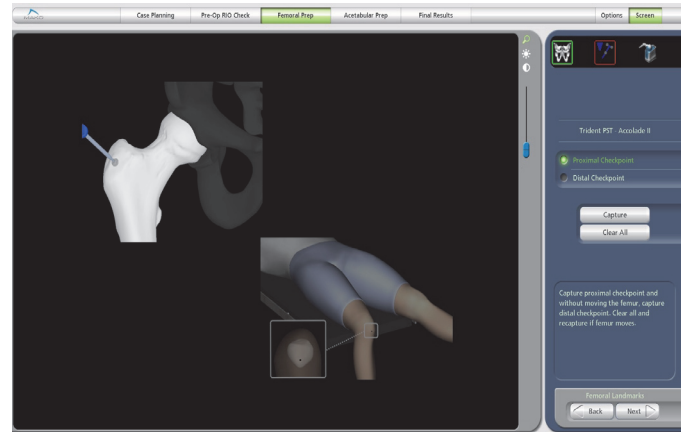

Figure 38. Capture Landmarks
4. Select 'Capture Landmarks' in the Control Panel. The screen will then show proximal and distal landmark images and allow capture of those landmarks (Figure 38).